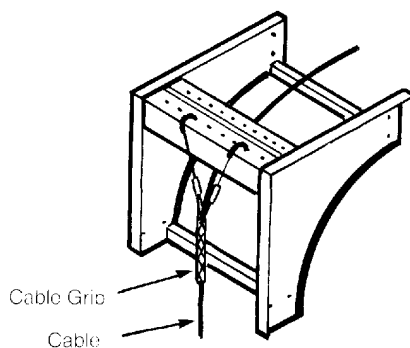

Figure 4.29
4.4.2 Cable Support Fitting (See Figures 4.29 and 4.30.)